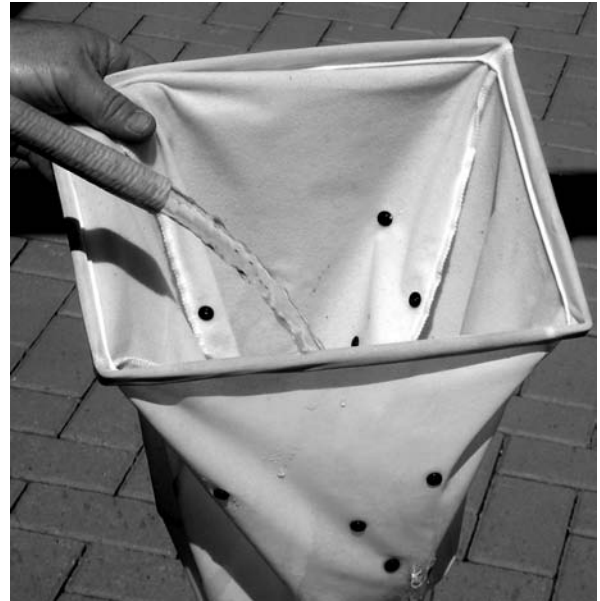

FIGURE 5
- Turn filter bag inside out and hose off all debris as shown in Fig 5. If very dirty it may be washed in your washing machine, inside out, with cold water, mild detergent, and by itself. Do NOT put in the dryer.